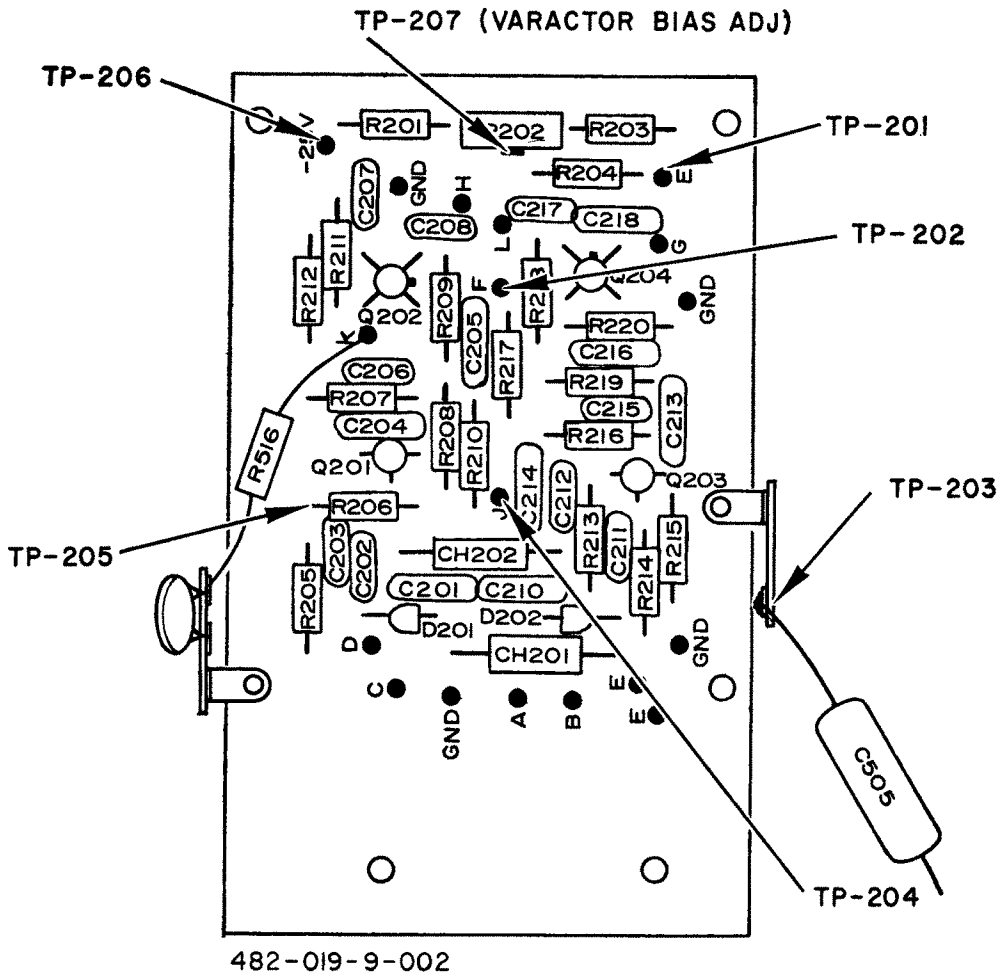

Figure 12.4. Parts Layout for Sweep Oscillator Board (Viewed from Component Side)
(Refer to Figure 12.4)
- 12.4.7.1 With the Model 415 turned on, connect a VTVM (negative d-c voltage range) to TP-207 (center arm of potentiometer R202) as indicated in Figure 12.4. Adjust potentiometer R202 as required to obtain a reading of 11.0 volts dc.
F. Sweep Oscillator Voltage at TP-203, Fig. 12.4 (22 V. P-P)